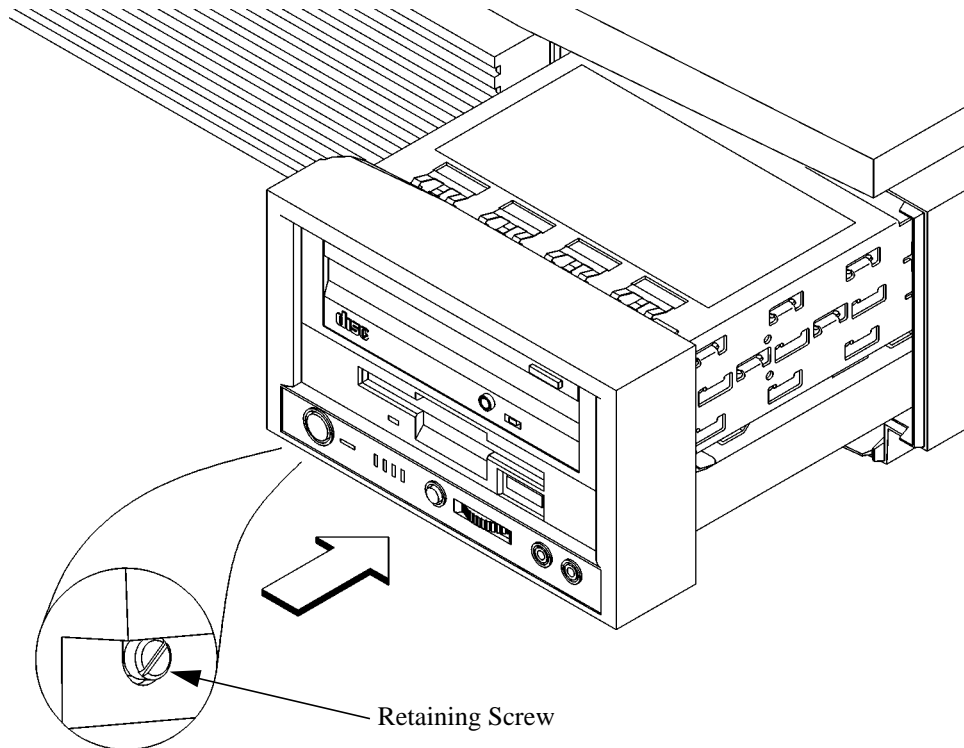

Figure 34
- 1 Slide the storage tray assembly into the system unit chassis, as shown in Figure 34.
- 2 Tighten the storage tray retaining screw, as shown in Figure 34.